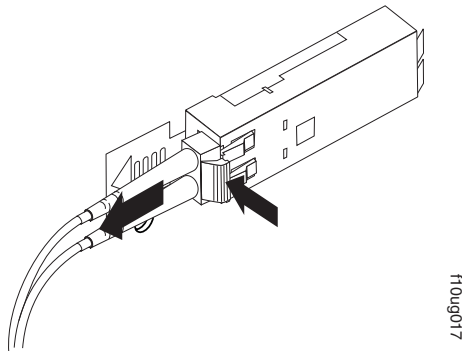

Figure 44. Removing the LC-LC fibre-channel cable
2. Carefully pull on the connector to remove the cable from the SFP module, as shown in Figure 44.